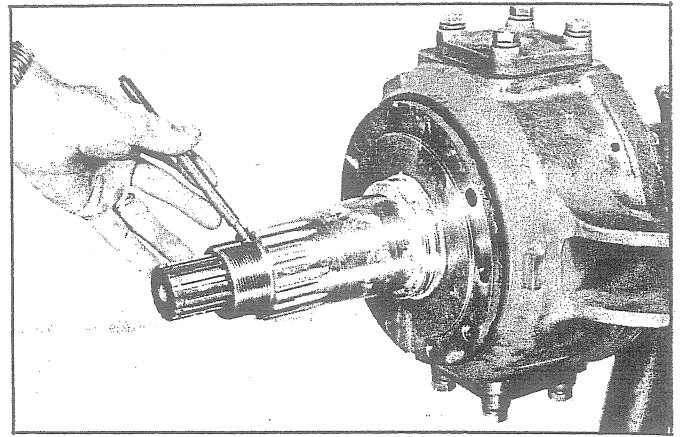

Fig. 97 - Spindle Assembly Properly Positioned
16. Carefully slide spindle assembly over axle shaft and position it to the spindle support as shown in Fig. 97. The milled groove in the threaded portion of the spindle must be positioned toward the top of the axle.